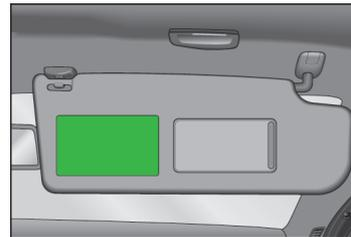

Fig. 15 Front passenger sun visor / label
- On the front passenger's sun visor. In some countries, the sticker is located on the front passenger's sun visor » Fig. 15.